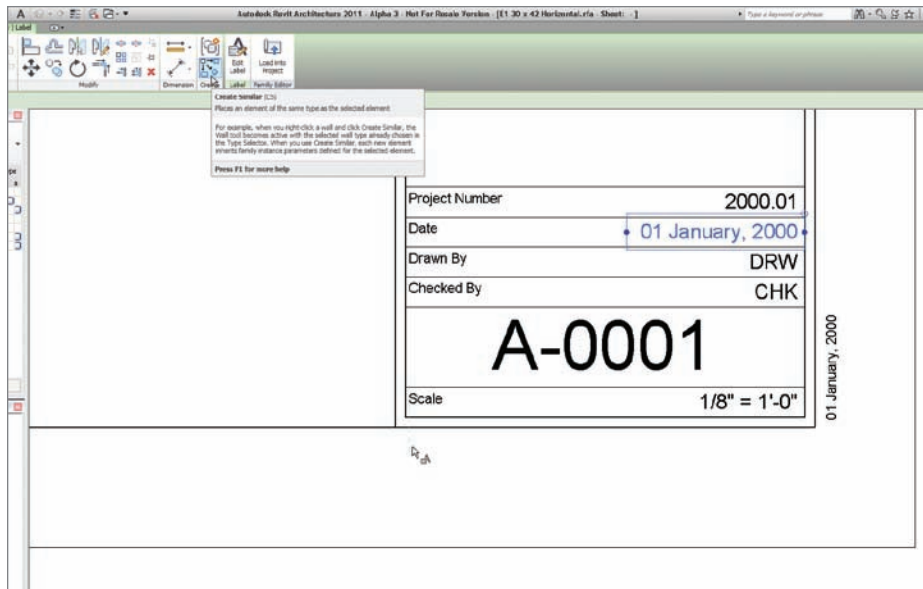

FIGURE 23.25 Adding the tag
4. Zoom into the lower-right corner, and select the Date label, as shown in Figure 23.25.
5. Click the Create Similar button on the Create panel, as shown in Figure 23.25.
6. Pick a point, as shown in Figure 23.25.